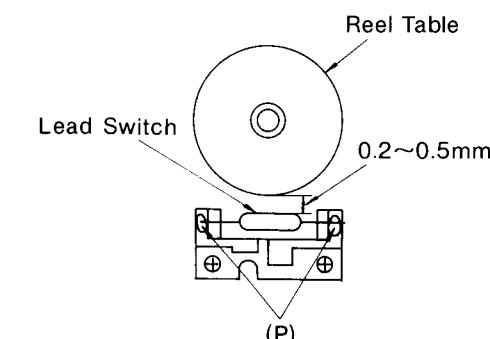

Fig. 13
*3. Keep a gap (0.2~0.5 mm) as shown in Fig. 13.